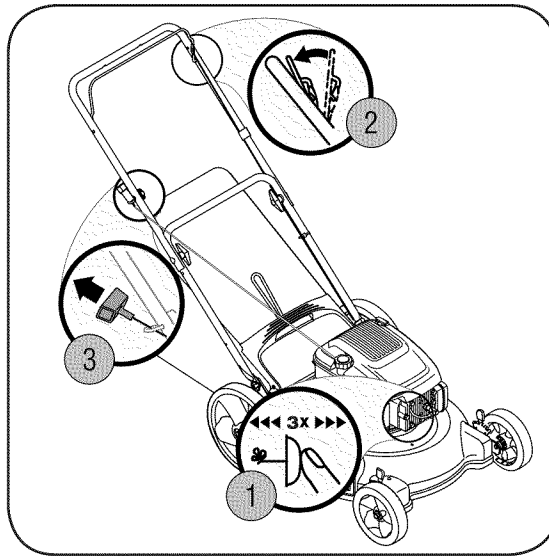

Figure 4-2: Starting the mower.
1. Push primer three times. Wait about two seconds between each push. See Figure 4-2. In temperature around 55° F or below, prime five times. Do not prime to restart a warm engine.
2. Standing behind the mower, squeeze the blade control against upper handle. See Figure 4-2.
3. Holding these two handles together firmly, grasp recoil starter handle and pull rope out with a rapid, continuous, full arm stroke. See Figure 4-2. Keeping a firm grip on the starter handle, let the rope rewind slowly. Repeat until engine cranks. Let the rope rewind each time slowly.